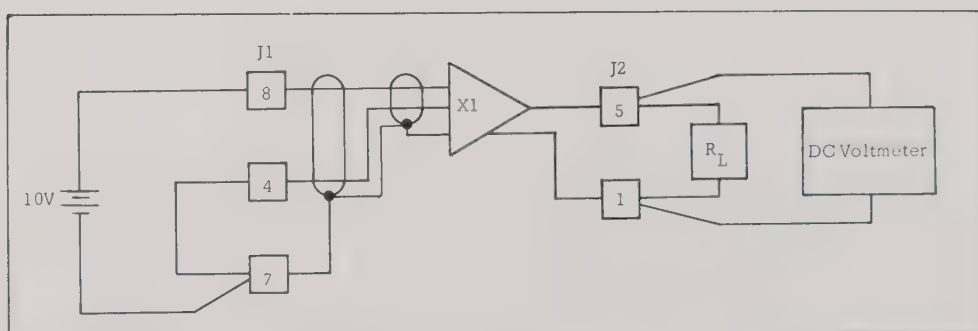

Figure 5.3 - Test Setup, Current Limit Adjust
1. Connect a 10 volt power supply, a 10 ohm 1/2 watt load resistor, and a DC voltmeter as shown in Figure 5.3.